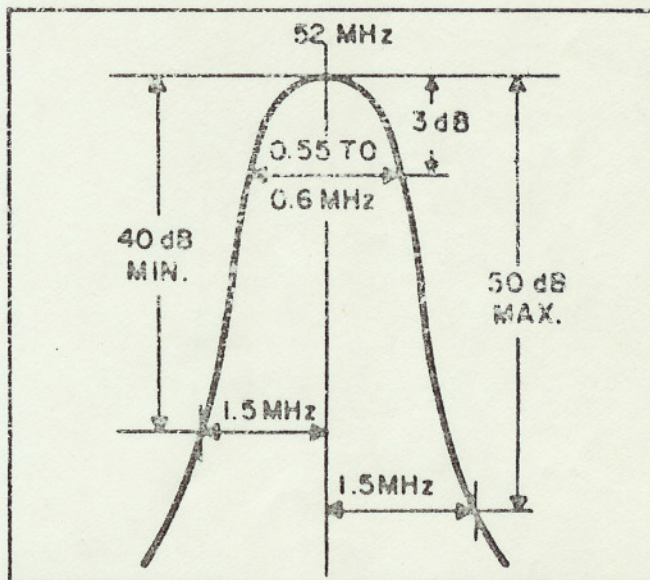

Fig. 5-5. Response of I-F Amplifier at Test Point No. 2
14. Adjust L214, L215, and C211 for maximum response at 52 MHz (Fig. 5-5). Use a hexagonal alignment tool similar to General Cement No. 8606 for the inductors and a Walsco No. 2519 tool for the trimmer.
16. If a response similar to that shown in Fig. 5-5 cannot be obtained with the adjustments in Steps 14 and 15, C201, C202, C205, and C214 may be adjusted; however, since these trimmers affect the input match of the amplifier, they should be disturbed only as a last resort. If one or more of these trimmers is obviously misaligned, adjust one at a time, being careful to return the adjustment screw to its original position if no improvement on the response is seen.